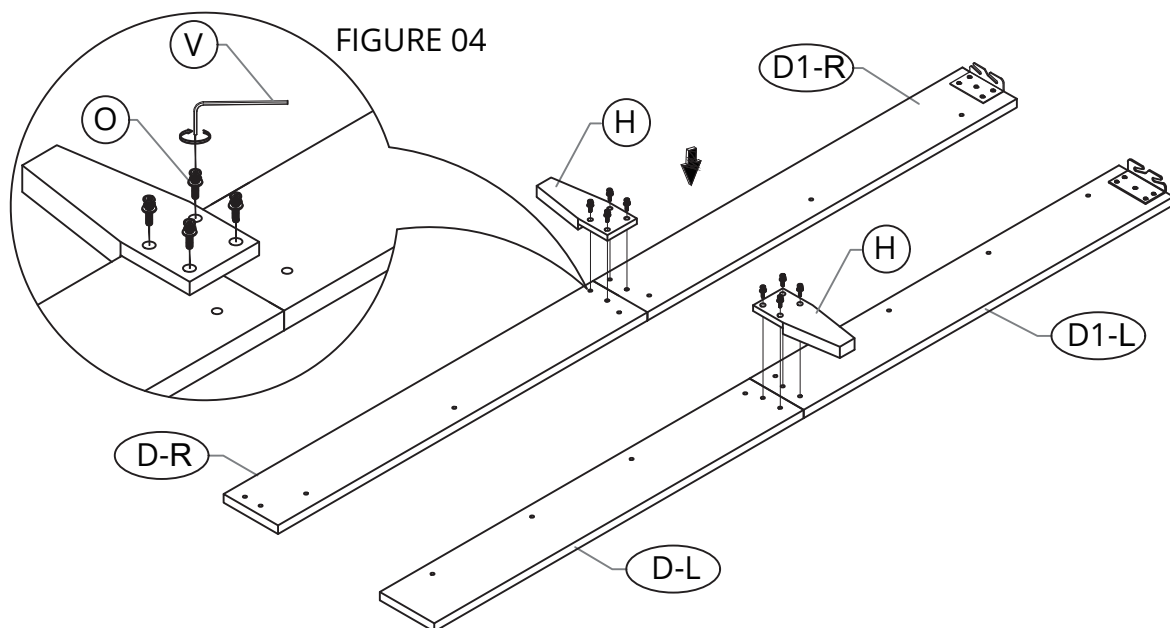

FIGURE 04
Install the leg support (H) to the side rail (D-L/R ; D1-L/R) by using the Allen bolt (O) with lock washer, flat washer and Allen key (V). See FIGURE 04 .